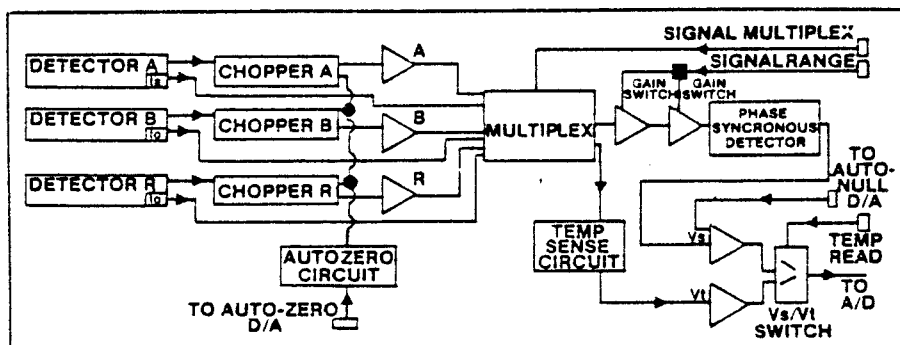

Fig. 3 Input circuitry
24. The d.c. signal is finally passed through a switch (where a temperature correction signal can be selected) and clipped to prevent negative-going transitions which would otherwise damage the following A-D converter. The overall gain is controlled (in six ranges) by the microprocessor as is the switching through of the required channel and temperature sensor, see Fig. 3.